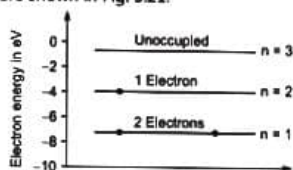

Fig. 5.21
- As such the energy states of an isolated atom will be quite discrete. The energy states of an isolated lithium atom are shown in Fig. 5.21.